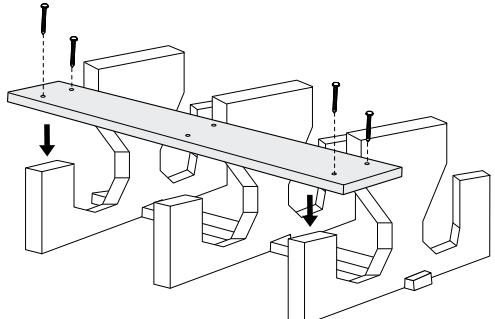

Figure 2
2. Place one table slat on each side of the plastic base (seat area). Pre-drill the end holes on the slats using the power drill and 3/8" drill bit. Loosely attach slats to the plastic base using 4" lag screws, power drill and 3/4" socket bit (will tighten later in step 7). (See Figure 2)